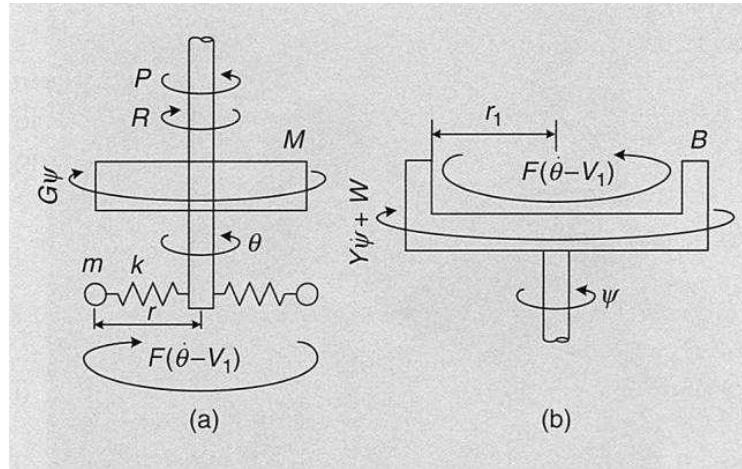

Figure 1.3 A free body diagram of Jenkin's Governor
The free-body diagrams of Jenkin's Governor is shown in Figure 1.3. The description of the model variables are as listed in Table 1.1.
- Q1).** Derive the equations for  $\psi$  and  $\theta$  using the free body diagrams shown in Figure 1.3. Combine these two to obtain the differential equation of velocity  $w$  ( $\dot{\theta}$ ).